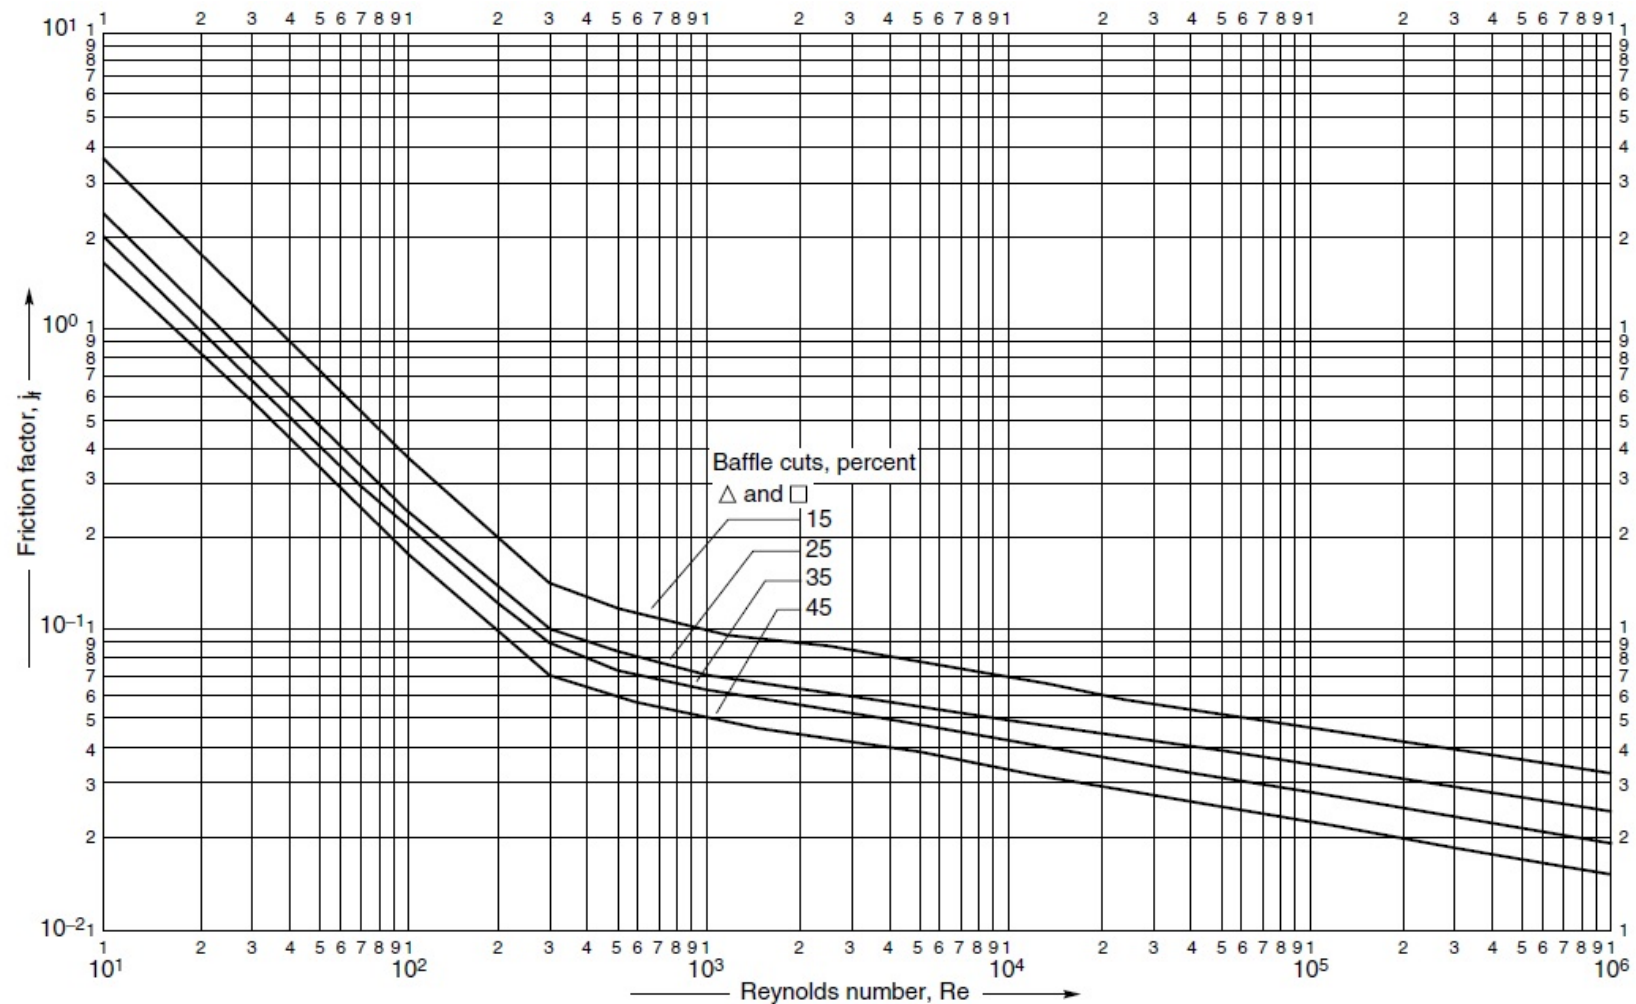

Fig. 11: Shell-side friction factors, segmental baffles
- From Fig. 11, for $Re = 36762$